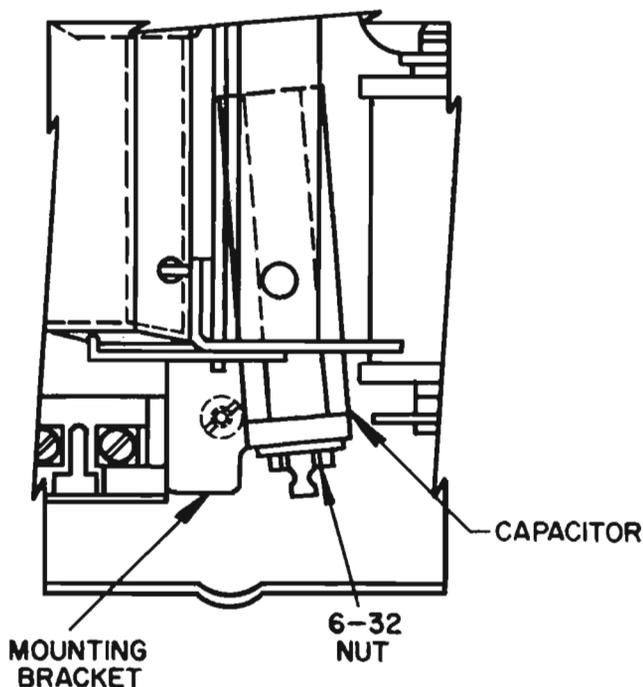

Figure 2. Method of Mounting 1  $\mu$ fd. Capacitor When Modifying Type 80T Telephone Set With D-38362-A Network.
- (2) Terminate the white capacitor lead on terminal 6.
- (3) Terminate the red ringer lead on terminal 7.
- (4) Terminate the green hookswitch lead on terminal 9.
- (5) Remove the right-hand mounting block, located between the network and the ringer volume control slot and held in place by a screw beneath the base.
- (6) Mount a D-68563-A capacitor (1  $\mu$ fd., can-type) onto a D-731517-A mounting block, using a D-7700-A hex nut (6-32), and solder a black spade-terminated lead to each of its terminals.
- (7) Install the capacitor assembly behind the network as shown in Figure 2, securing the capacitor-bracket mounting block to the base in place of the plain mounting block removed in step (5), and fastening it to the base with the original screw.